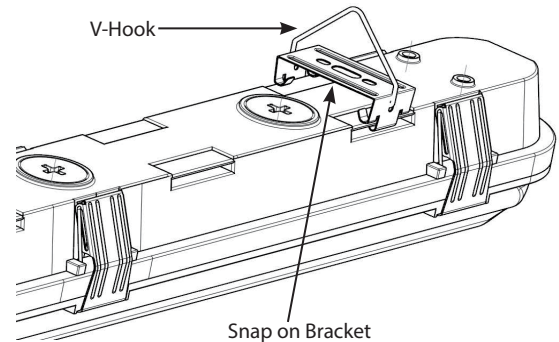

Fig: 4
3. **V-Hooks** (2 pcs for SEAL 2ft, SEAL 4ft and 3 pcs for SEAL 8ft) are provided for chain mounting. Loop **V-Hooks** through **Snap on Bracket** at back of **Housing** as shown in Fig. 4.
5. Fixture mounting height and spacing should be determined by application requirements. Use chain suitable to support four (4) times the weight of the fixture.